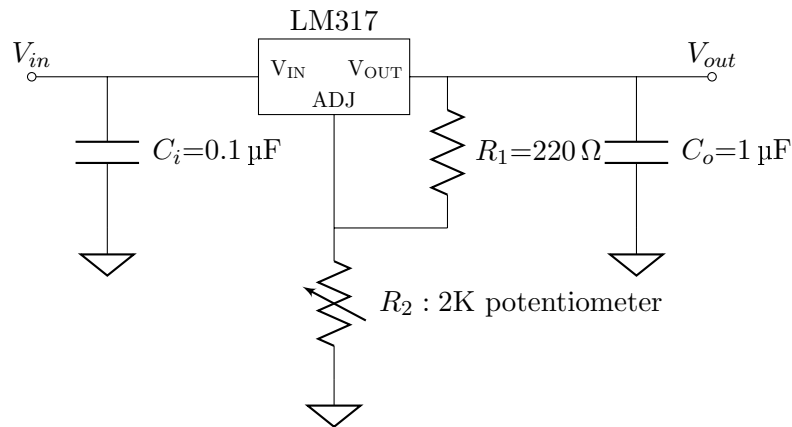

Figure 4: Schematic of the voltage regulator circuit using LM317.
1. Using Fig. 4 as a reference, build the regulator circuit on the breadboard. You should be able to find the LM317 pinout diagram from its datasheet, which you find from online. *As a general suggestion, it is important to keep your circuit well laid out and keep the connecting wires as short as possible. Cut the wires to the right length if necessary.* Fig.xxx shows an example breadboard layout for the LM317 regulator circuit in this lab.